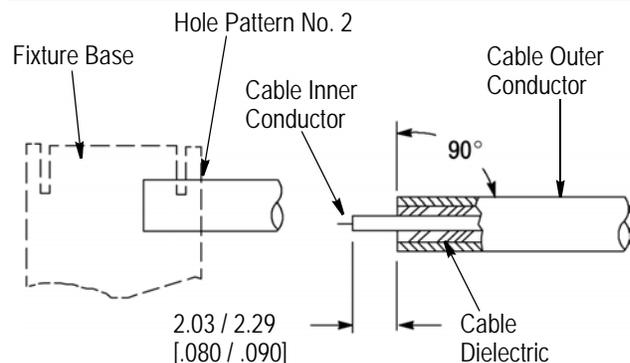

Figure 2
3.1. Preparing the Cable (Figure 2)
5. Complete trimming of cable inner conductor to dimension shown in Figure 2.